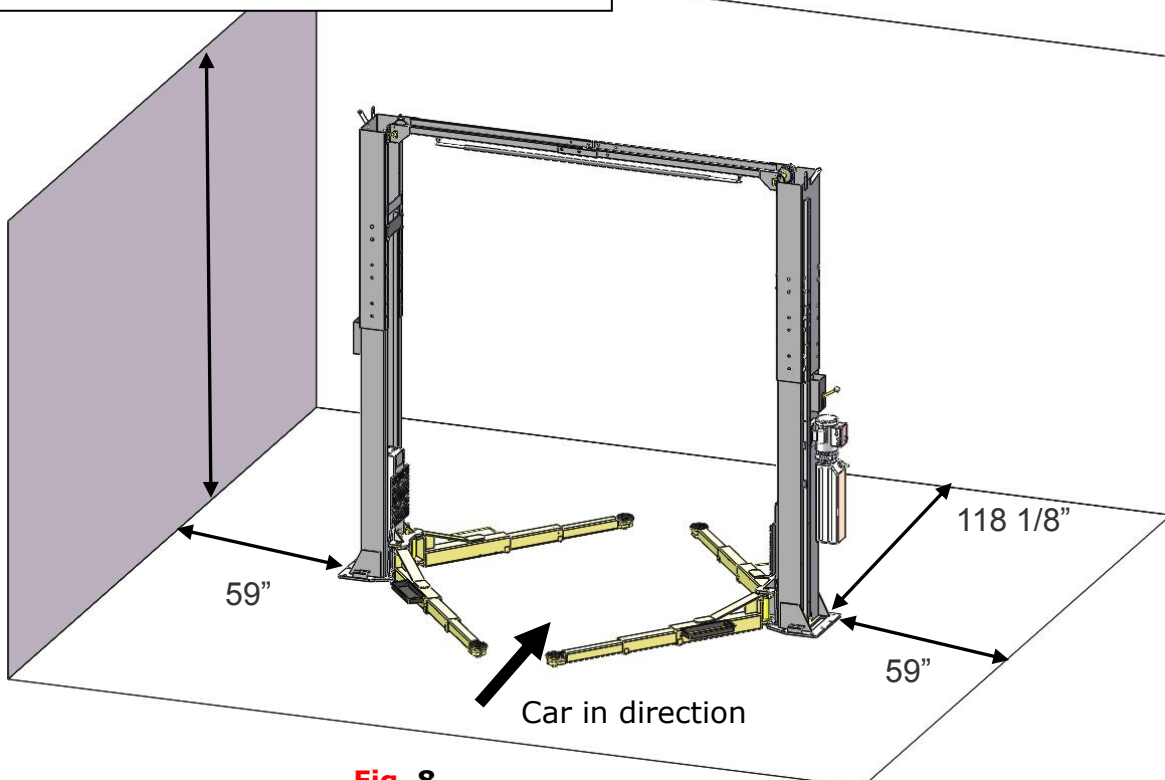

Fig. 8
1. Installation space: Ensure there is enough space for the lift. Accurately measure the front, back, side and top mounting dimensions and refer to the below figure data(See Fig. 8).